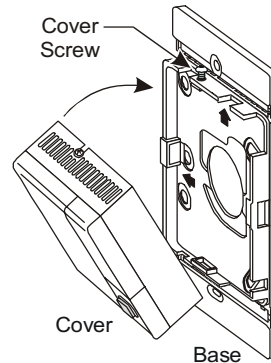

Figure 3: Attaching the Cover to the Base
4. Place the bottom edge of the cover against the bottom lip of the base, and rotate it up onto the base as shown in Figure 3.
7. Place the bottom edge of the cover against the bottom lip of the base, and rotate it up onto the base as shown in Figure 3.